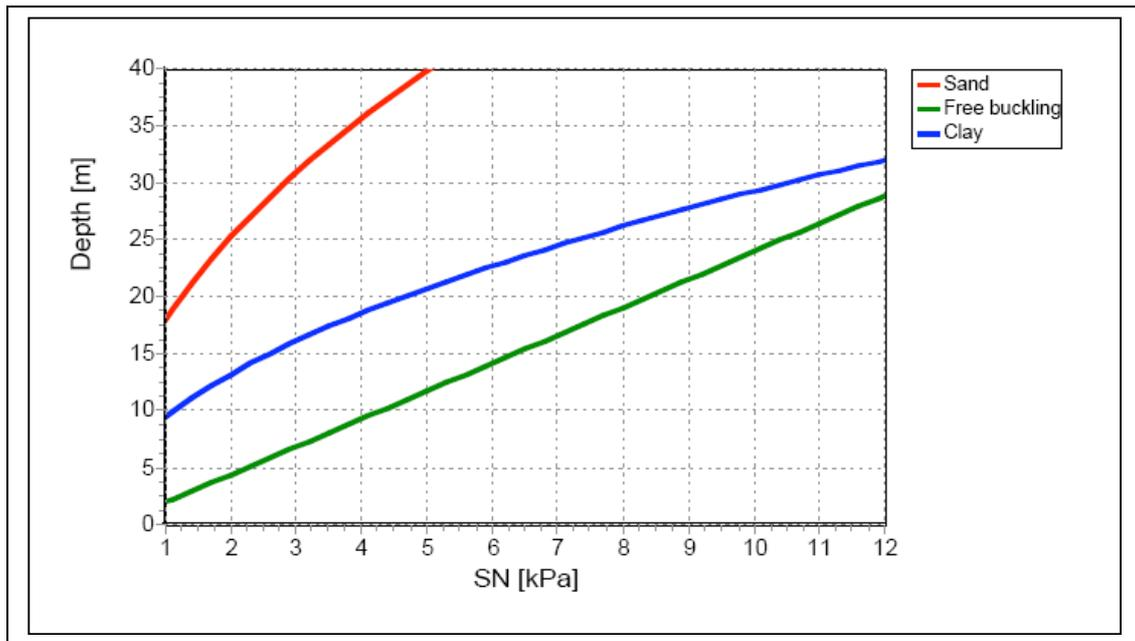

Figure 2) Allowable depth
For the shaft the ring stiffness is the most important parameter to be considered as the shaft should not collapse under the load of ground and groundwater. In figure 2 the maximum allowable depth (H) is shown for chambers when buried in sand, clay and in very weak soils. The groundwater level is 0.5 meter below the surface.